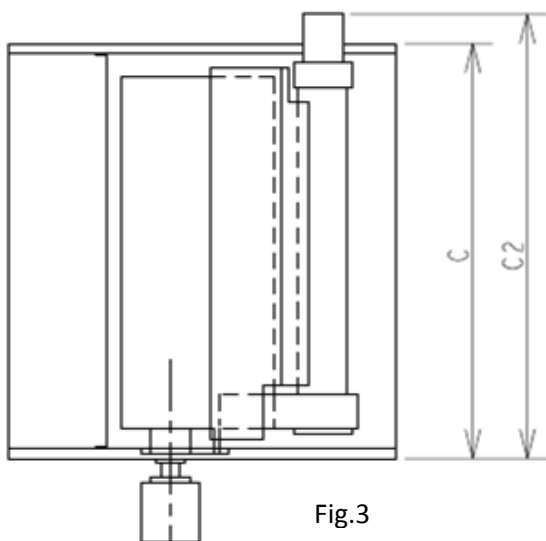

Fig.3
- Burner fixed outside (fig3.)